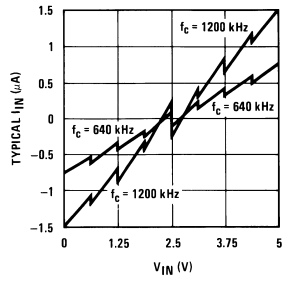

FIGURE 6. Comparator  $I_{IN}$  vs  $V_{IN}$  ( $V_{CC}=V_{REF}=5V$ )
**Note 6:** Comparator input current is a bias current into or out of the chopper stabilized comparator. The bias current varies directly with clock frequency and has little temperature dependence (Figure 6). See paragraph 4.0.
The average value of the comparator input current varies directly with clock frequency and with  $V_{IN}$  as shown in Figure 6.